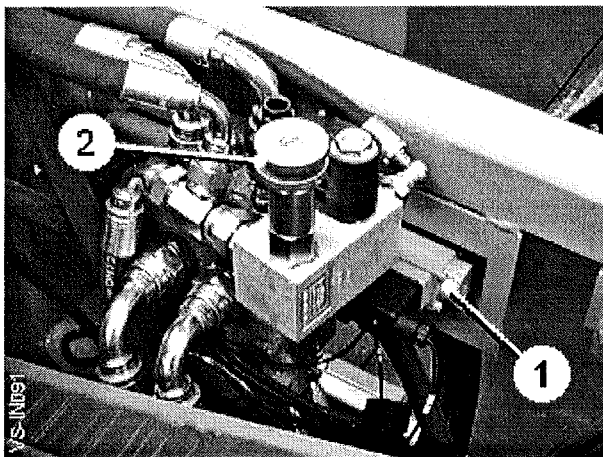

Fig 26
The wheels can be set to forward ◀, neutral or reverse ▶ by operating the 3-way 'Axle Drive' switch on the control box. When forward or reverse is selected the directional control valve (item 1, figure 26) mounted behind the rear RH guard door demands oil flow from the pump to provide the necessary flow required to match the harvester wheel speed to the tractor speed. When the flow matches, the pressure compensator within the pump maintains a constant pressure in the hydraulic system which is set on the external pressure control valve (item 2, fig 26). This valve allows a low operating pressure to be set which is adjustable to give the required drive assistance for normal harvesting. The forward drive can be matched to the tractor by using the speed control knob. Turn the control fully up and then, while in work, turn the knob down until the pressure gauge shows a steady reading. When the high pressure button ⊕ is pressed, the system operating pressure is increased to the setting of the main compensator within the pump.